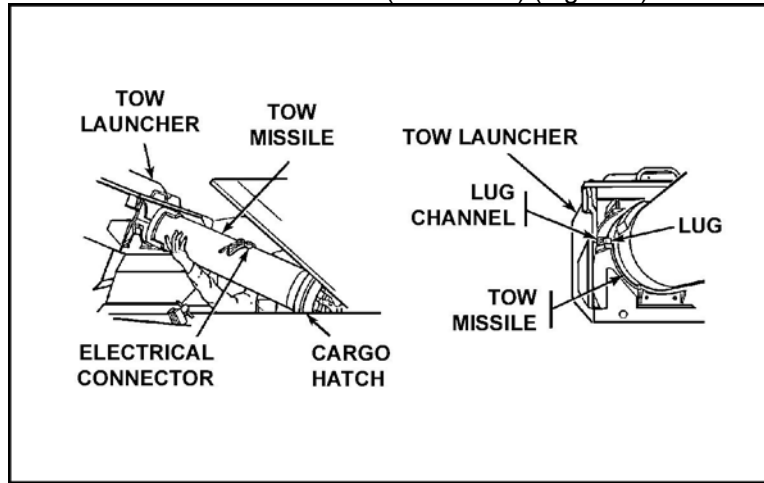

Figure 8. Load the missile.
10. Load the TOW missile into the left missile tube (No. 1 tube) (Figure 8).